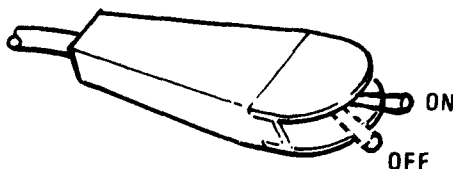

Figure 2-2.1 ON-OFF Switch.
Page 2-4. Paragraph 2-4c and figure 2-2.1 is superseded by the following paragraph 2-4c and figure 2-2.1:
(1) Adjust truck hand throttle for proper engine RPM (approximately 1000 RPMs) to maintain adequate charge rate during pumping operations.
(2) Turn ON-OFF switch to on position. Refer to Figure 2-2.1.